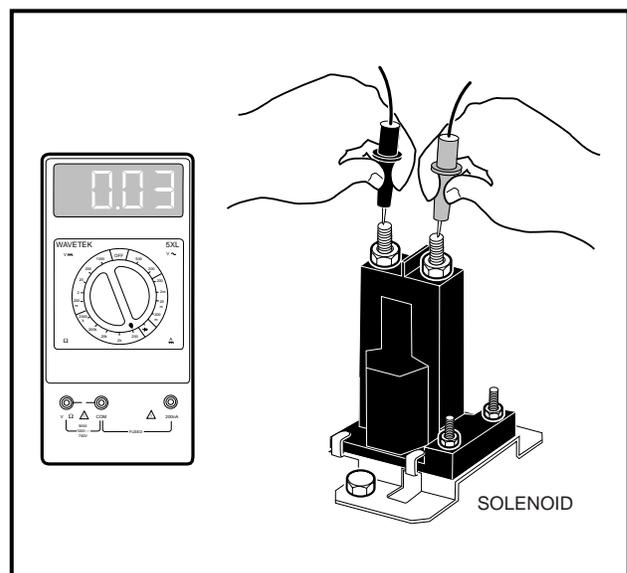

Figure 11-21 Solenoid Contacts - Power On, Step 2
3. With the key switch in the ON position and the Forward/Reverse handle in the FORWARD position, depress the accelerator pedal to the floor (solenoid will click). With the accelerator pedal depressed, place the red (+) probe of a multimeter (set to Ω) on one of the large posts on the solenoid, and place the black (-) probe on the other large post on the solenoid. The multimeter should indicate continuity. If the reading is incorrect, replace the solenoid (**Figure 11-21, Page 11-13**). **See following WARNING.**